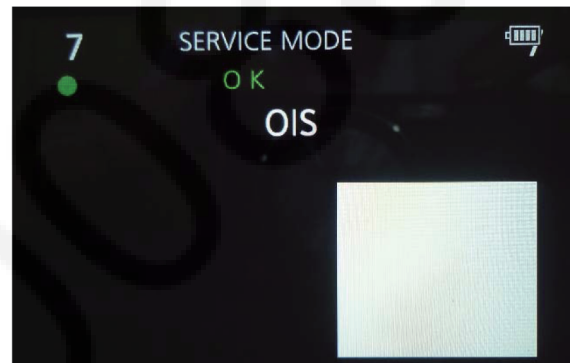

Fig.3-4
4. When the adjustment is completed successfully, adjustment report menu appears with Green OK on the LCD monitor. (Refer to Fig.3-4)